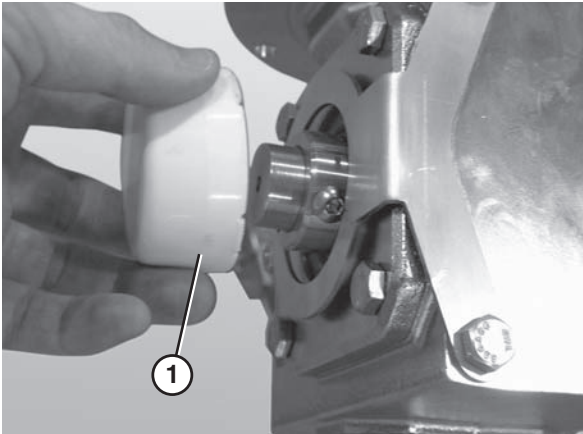

Figure 24
3. Remove the gearmotor cover (**Figure 24, item 1**). Use a screwdriver to pry it loose, if necessary.